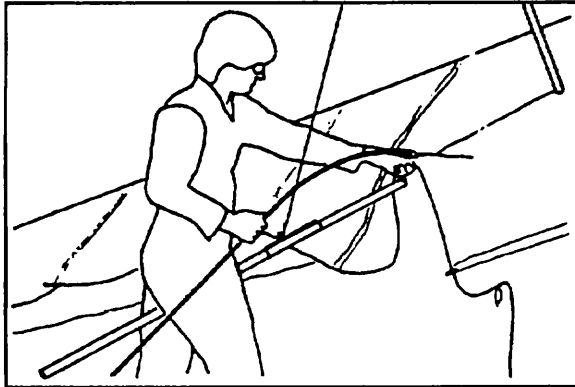

Figure 14
8) Install the cambered top surface battens in the sail, leaving out the shortest three on each side for the present time. Each batten is secured by a double loop of the batten string. (Figure 14, 15) Note: Insert the cambered battens carefully, so as to prolong the life of your batten pockets. Never insert or remove battens with the crossbar tensioned, or with a heavy wind load on the sail, or in any condition that causes the battens to slide with great resistance in the pockets.